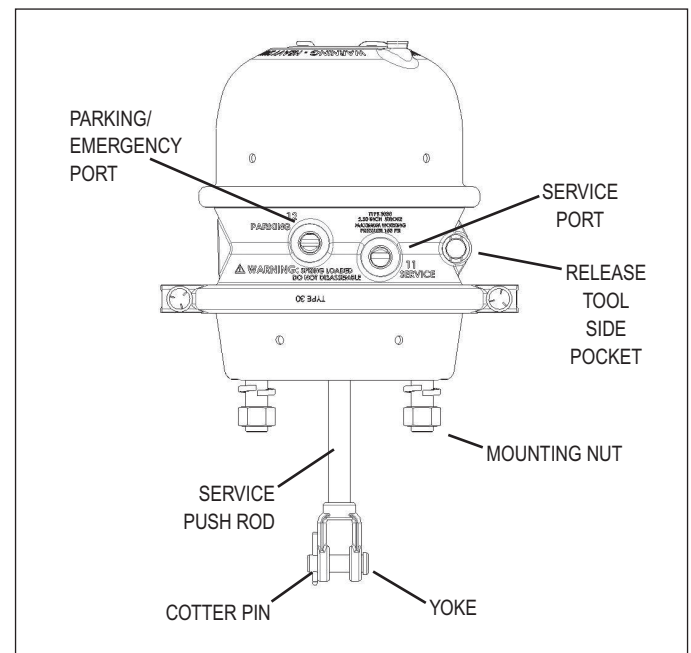

FIGURE 2 - SPRING BRAKE EXTERNAL VIEW
3.1.1 See Figure 2. Check push rod travel and adjust travel at the slack adjuster if needed (only where manual slack adjusters are used). Push rod travel should be as short as possible without the brakes dragging (consult the manufacturer's installation instructions for the slack adjuster. Excessive push rod travel reduces braking efficiency, shortens diaphragm life, gives slow braking response, and wastes air.